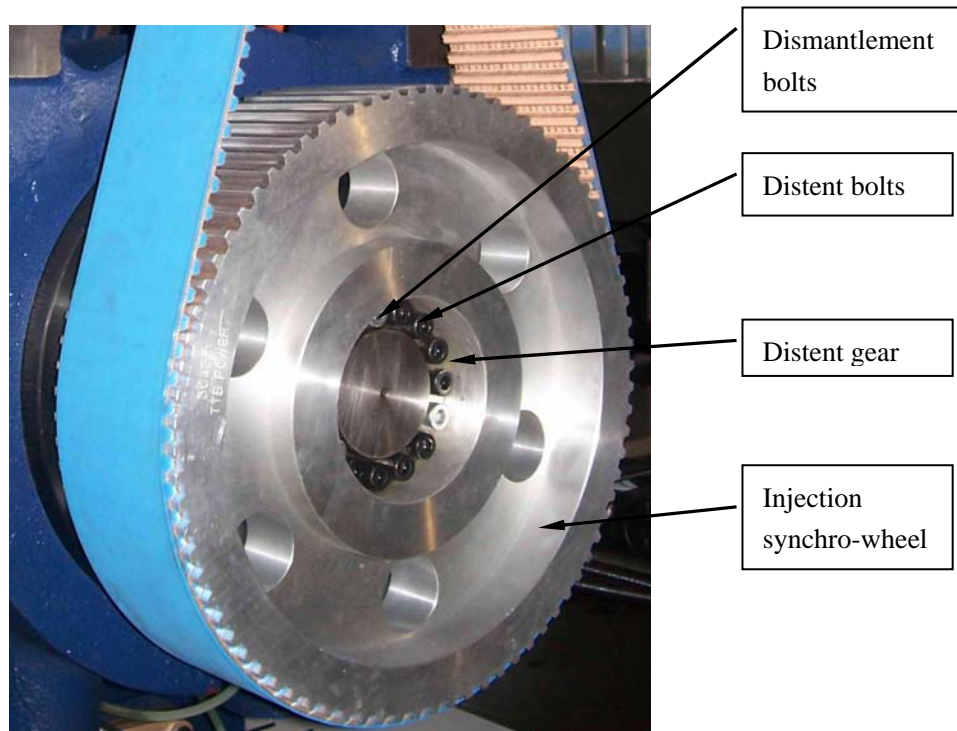

Fig 4.2.1(4) synchronous-wheel for injection unit
① Loosen the distant gear: loosen the distant bolts, 12 pieces in Fig4.2.1(4) (bolts quantities may be different according to different types of machines) , and then screw down the white dismantlement bolt to eject the distensible gear.